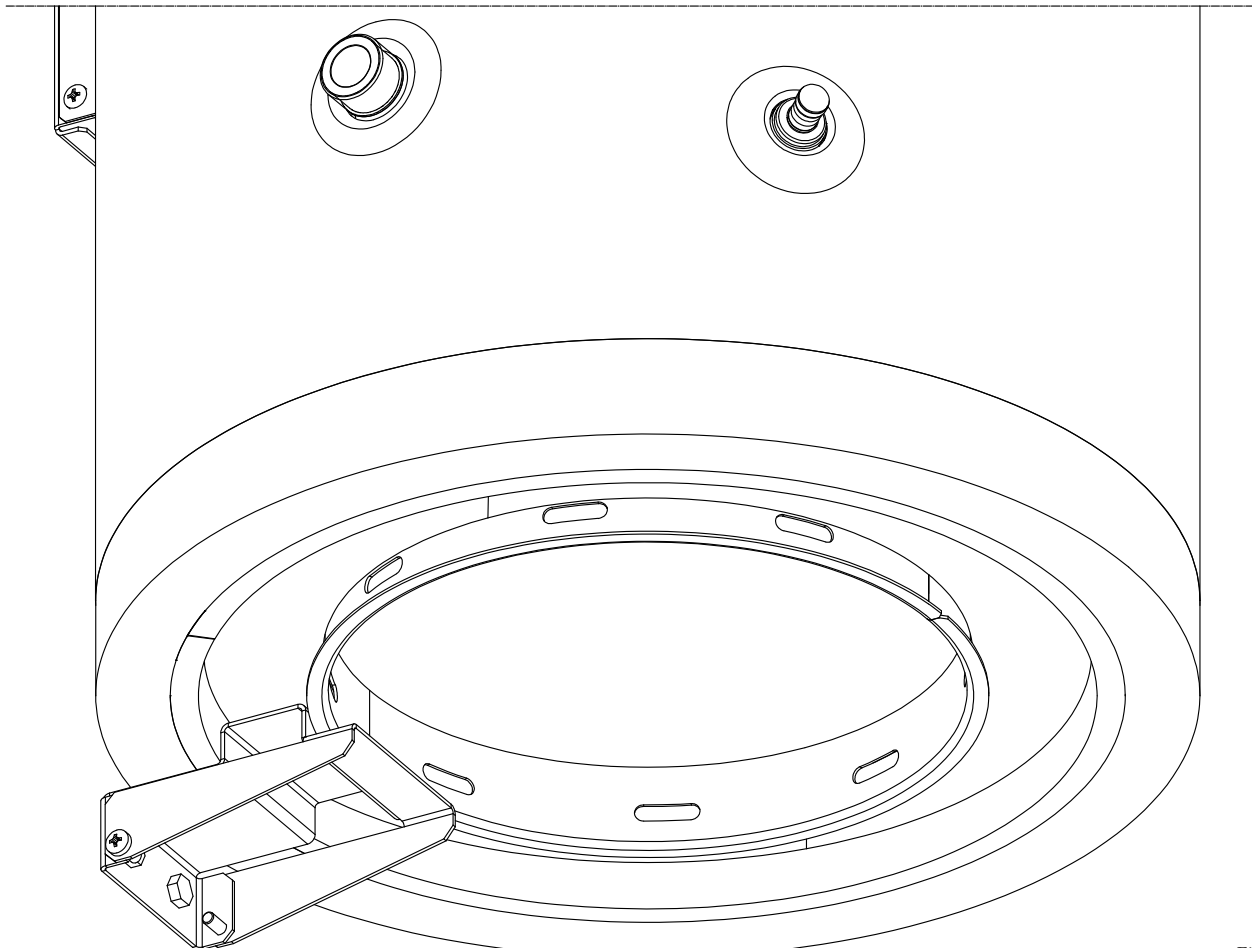

Fig. 4
- Make sure that the boiler pedestal comes into contact with the lower support as shown in the drawing (Fig. 4).